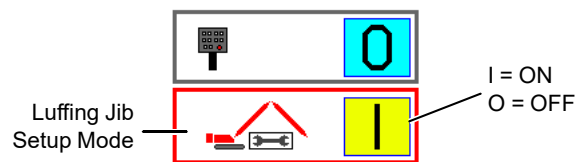

FIGURE 3-7
3. The screen shown in Figure 3-7 will appear on the display.